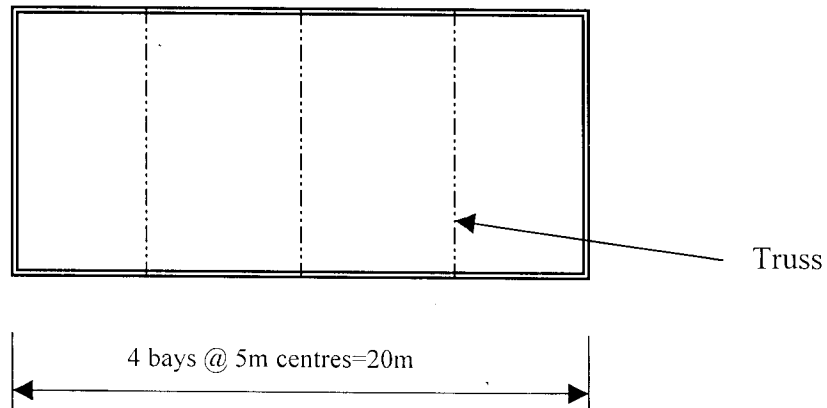

Figure 2
- 2 Figure 2 shows a plan of an industrial building made of a 200mm thick wall (2.1 kN/m² surface) built using modular burnt clay bricks. A rectangular reinforced concrete lintel of dimensions 400x200 spans an 8.0m opening at the gable end of the building. The wall height above the lintel is 4.5m. The pitched roof is supported by three trusses while at the gable end it is supported by purlins. Cover to reinforcement is 30mm and materials are concrete grade C30 of density 24 kN/m³ and $f_y=460$ N/mm² while shear reinforcement is $f_{yv}=250$ N/mm². The slope of the roof is 25°. Assume no access to the roof other than for maintenance and cleaning (0.75 kN/m²) for live loading. Unfactored self